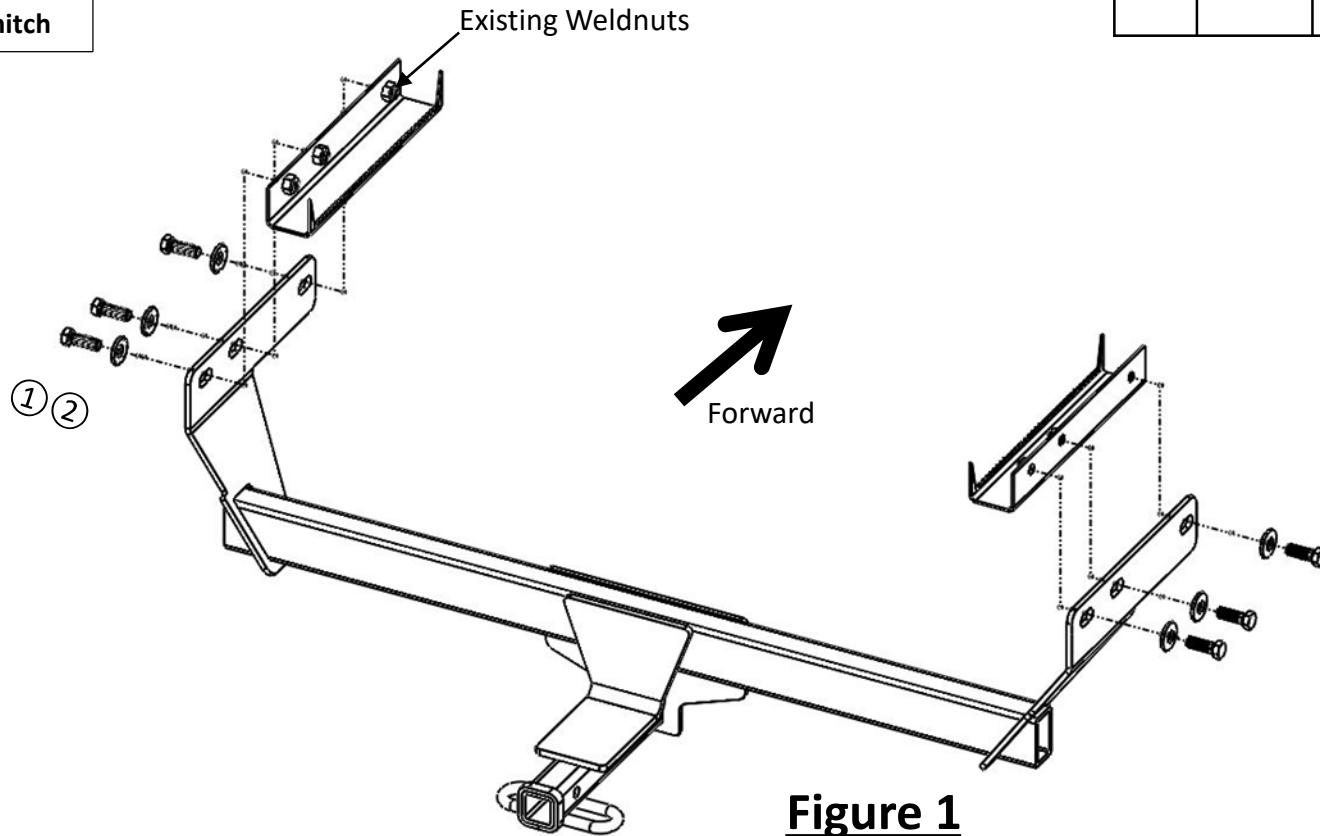

Figure 1
- 2. Install hitch** – Raise hitch into position and align with mounting hole. Loosely install (6) M12 bolts ① and (6) 1/2" conical washer ②, see **Figure 1**.
2. **Install hitch** – Raise hitch into position and align with mounting hole. Loosely install (6) M12 bolts ① and (6) 1/2" conical washer ②, see Figure 1.
①	Qté (6)	Boulon M12 x 1.25 x 35 CL8.8
②	Qté (6)	Rondelle conique 1/2"
2. **Installer l'attelage** – Soulever l'attelage en position et aligner les trous de montage. Installer lâchement six (6) boulons M12 ① et six (6) rondelles coniques 1/2 po ②, voir **Figure 1**.